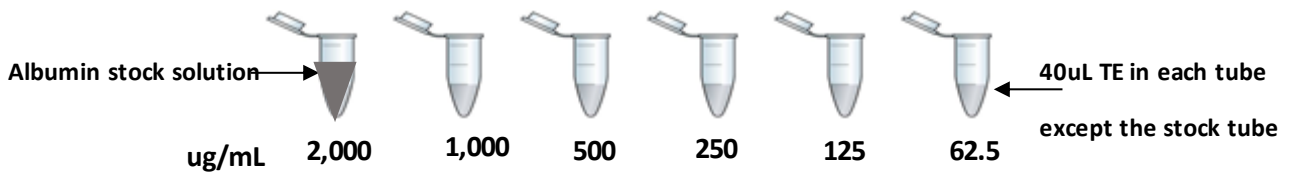

Fig. 1
5. Using a p200 micropipette, put 40uL of Elution Buffer in each microfuge tube. See Fig. 1.